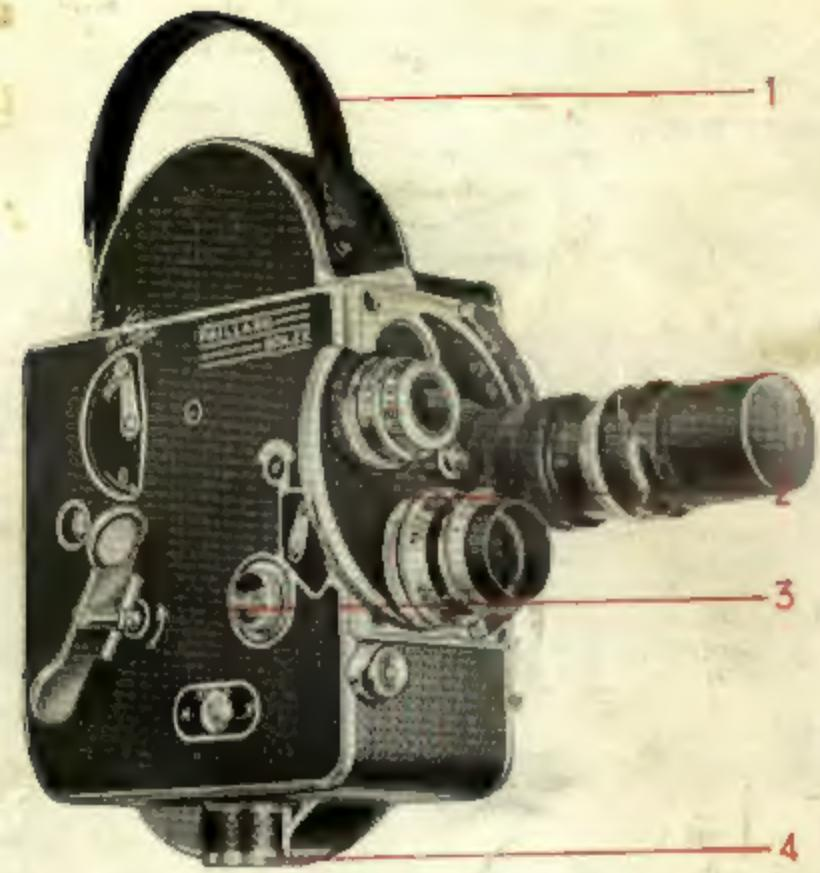

Fig. 1
- Rewind the motor to the full, either by means of rewinding handle 25 or of winding key 3. Rewind in the direction shown by the arrow in Fig. 1. Winding key 3 screws on to the thread covered by chromium-plated screw 20, which can be unscrewed by means of a coin.